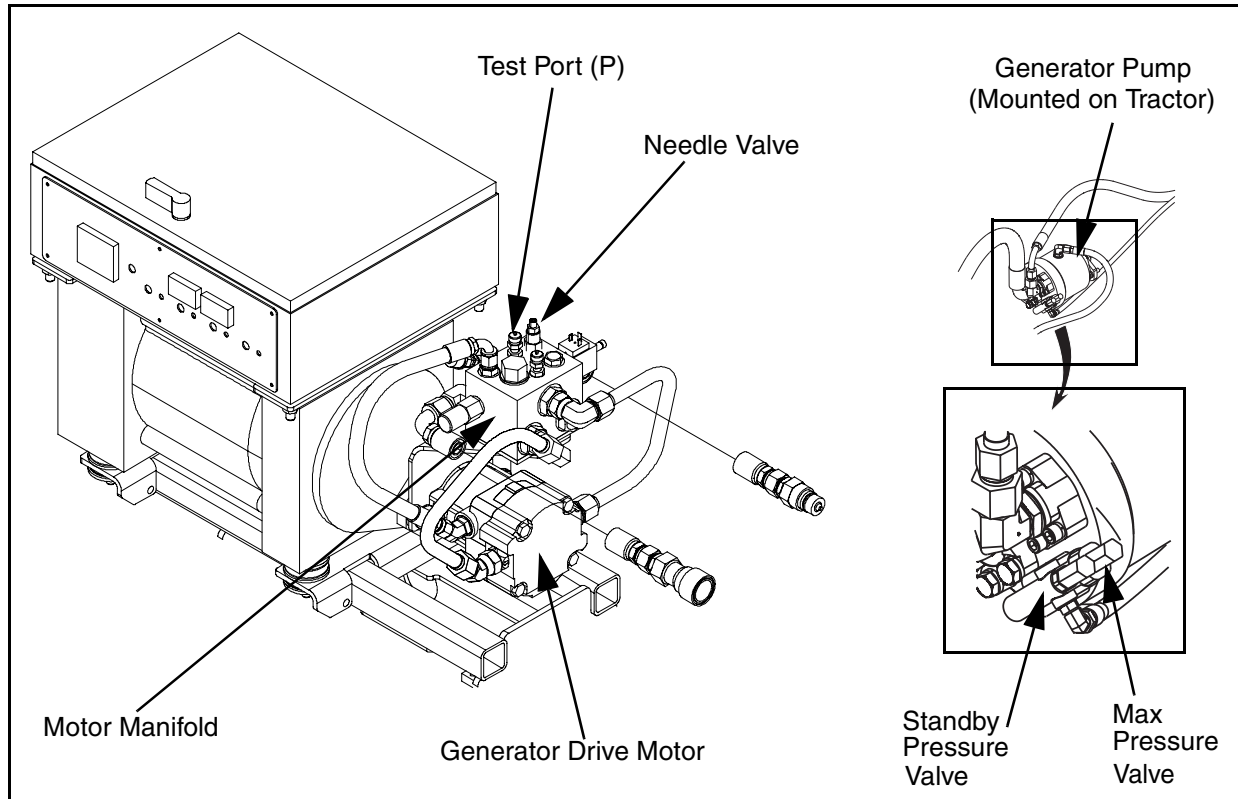

Figure 37 Generator Hydraulic Pump Assembly - VersaScreed 8
- 2) Install 6000 psi gauge on test port (P) of generator drive motor manifold. (Figure 37)